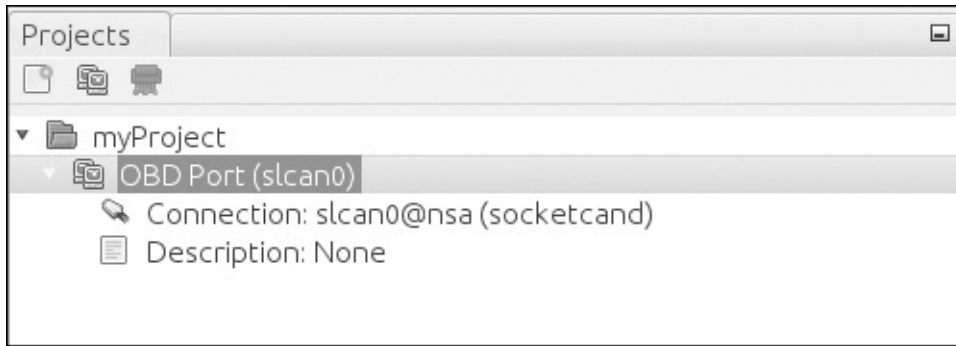

Figure 3-5: Setting up the bus connection
4. Drag the socketcand connection to the bus connection. (The bus connection should say *Connection: None* before it's set up.) To see the bus, you may have to expand it by clicking the drop-down arrow next to the bus name, as shown in Figure 3-5.